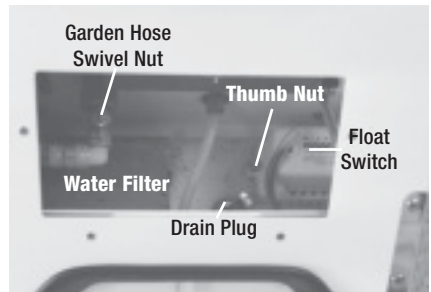
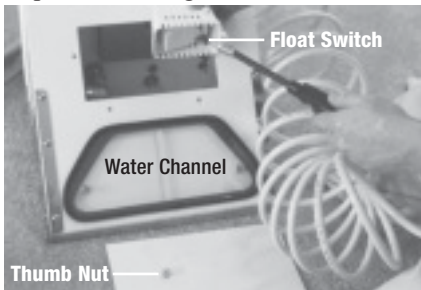

Figure 24: View of inside of recovery tank
Figure 25: Cleaning the Float Switch
A. Keep Float Switch (fig. 24) Clean
5. Clean Float Switch (figure 25). Unscrew brass thumbnut (figure 24) and lift up the float switch. Use your spray wand to spray out any debris that may have collected inside the plastic housing.
7. Remove and clean water channel by removing thumbnuts from underside of machine (figures 25 and 26).